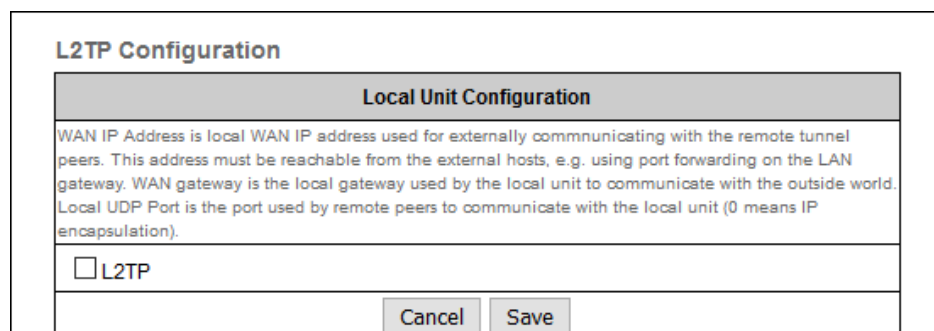

Figure 45. Configurator GUI (L2TP Configuration dialog)
- The **L2TP Configuration** dialog will be shown (Figure 45 \(page 116\)).